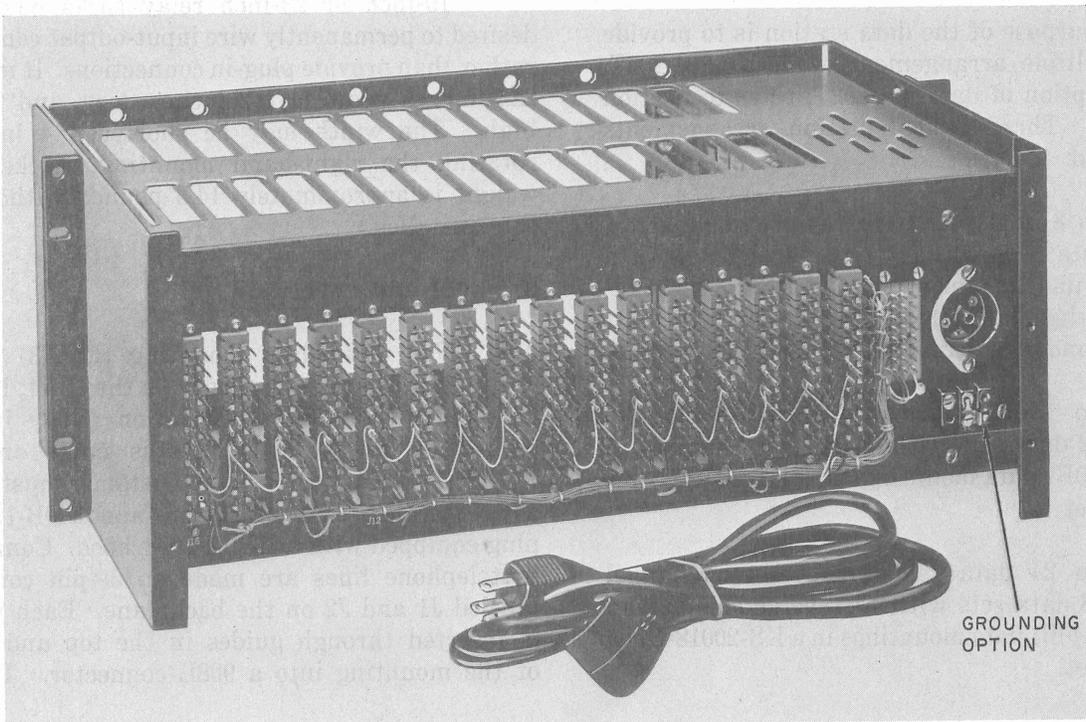

Fig. 2—Rear View of 39A1 Data Mounting
**2.02** The 39A1 data mounting includes the necessary framework, wiring, and hardware to mount up to 8 data sets with reverse channel, or up to 16 data sets without reverse channel. All connections to the data sets (except power) must be made on wire-wrap terminals at the rear of the data mounting (Fig. 2). Each data set is inserted through guides in the top and bottom of the mounting into a 908C connector. The data sets are secured in the mounting by a retaining bar assembly which also serves as a labeling strip.